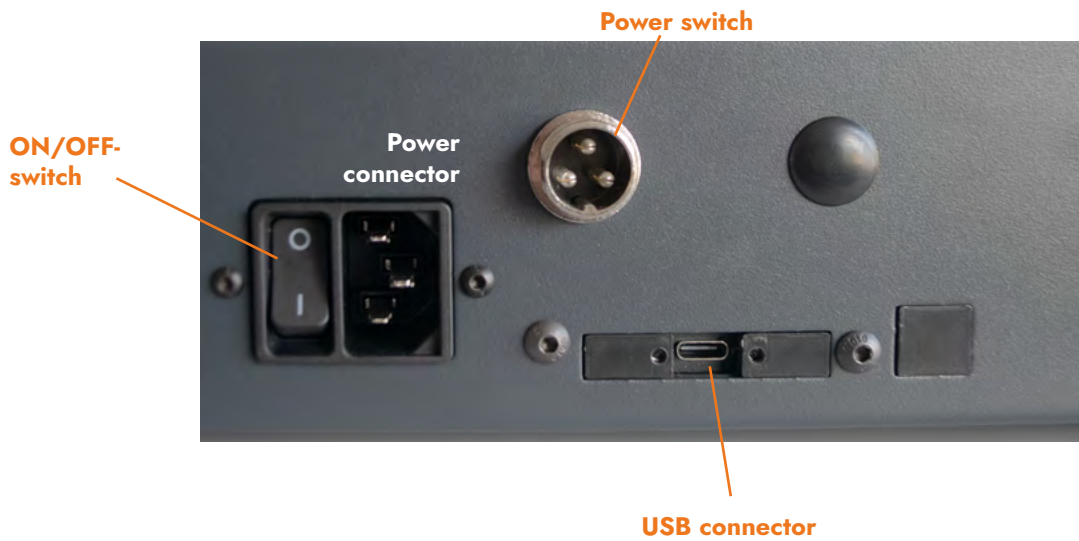

Figure 4 - Electronic connections
3. Connect the power cable to the machine and to the outlet. (See Figure 4 - Electronic connections).